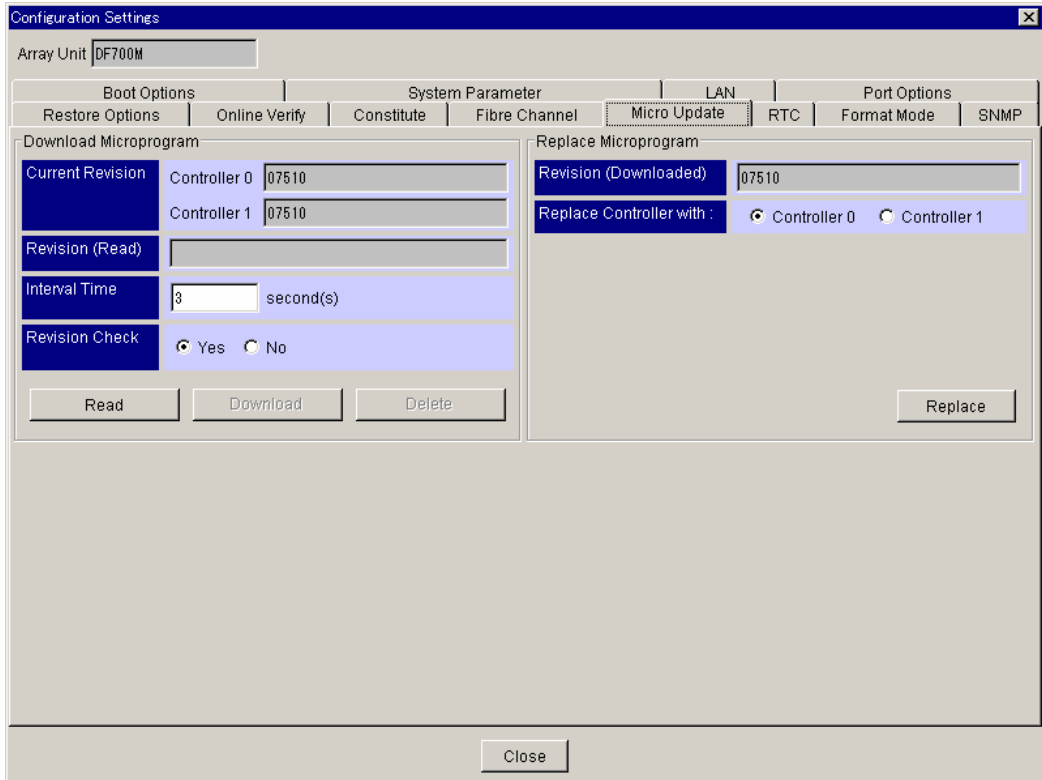

Figure 5.55 Downloading Microcode
4. Click the **Micro Update** tab (see Figure 5.55). For a detailed description of the **Micro Update** tab, refer to section 5.1.13.